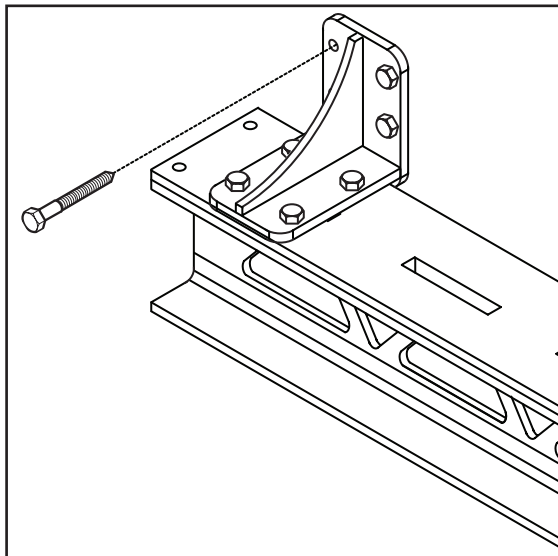

Figure 9
11. Install I-beam track with lag screws (B.) (provided) using a 9/16" socket wrench (Figure 9). Tighten all lag screws.